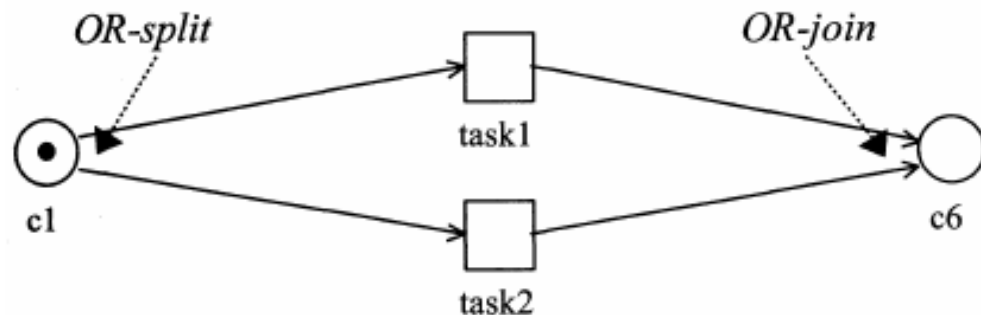

Figure 2.18 Selective
- implicit model: Fig2.18, choice is made at the moment when either task1 or task2 has to be carried out